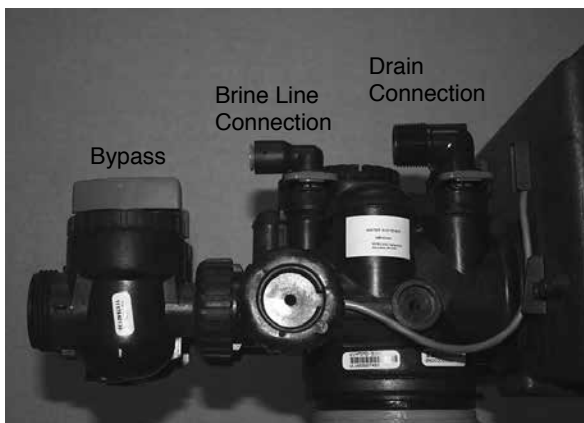

Figure 6a
5. The drain connection may be made using either 5/8" polytube (See figure 6a, page 6) or a 3/4" female adapter. If soldering, joints near the drain must be done prior to connecting the drain line flow control fitting. Leave at least 6" between the drain line control fitting and solder joints when soldering pipes that are connected on the drain line control fitting. Failure to do this could cause interior damage to the drain line flow control fitting.
7. Connect the brine line found in the brine tank to the brine connection on the control valve. The control valve has a standard refill elbow which a 3/8" flexible tube can be connected, see figure 6a, page 6. (An optional elbow can be ordered which accommodates a 1/2" flexible tube for a high regenerant draw rate situation). Both elbows use the same refill flow control and retainer. Do not connect the other end of the brine line to the safety brine valve in the brine tank at this time. Make sure the floor is clean beneath the salt tank and that it is level and smooth.